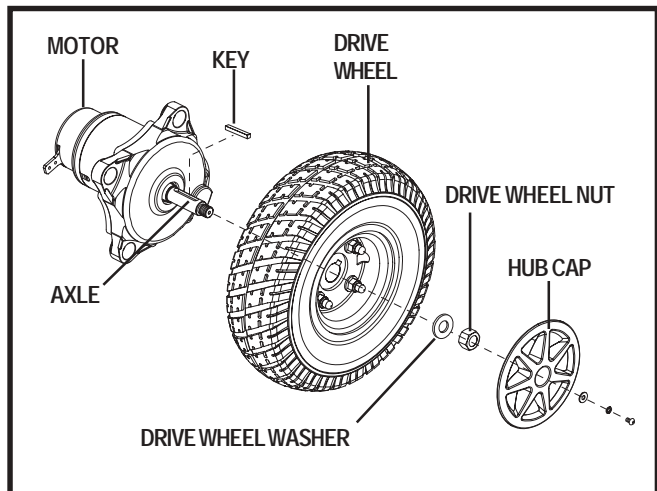

Figure 28. Jazzy Select Series Drive Wheel Removal
5. Remove the hub cap. See figure 28.
6. Remove the drive wheel nut and washer from the axle. See figure 28.